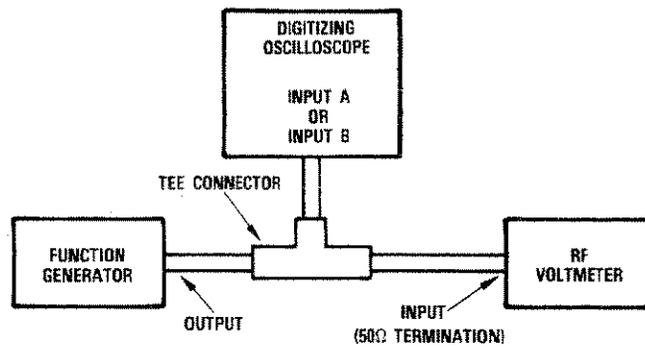

Figure B-1. Bandwidth Test Setup
- Vertical Test** This test verifies that the input signal is correctly digitized by the Oscilloscope. Ac offset, dc offset, gain and bandwidth are tested at each input channel. The measured signal is compared to the expected input signal. Therefore, the accuracy of the input test depends on the accuracy of the chosen signal source. When testing the bandwidth of the Oscilloscope, the program will instruct you to connect your test equipment as shown in Figure B-1.